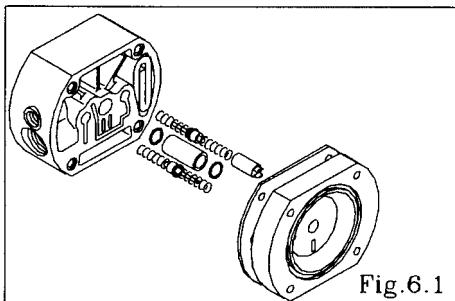

Fig.6.1
- Remove the main body. [Fig.6.1]
- Draw out the pilot valve assembly. [Fig.6.1]
- Remove the O-ring and bushing. [Fig.6.1]